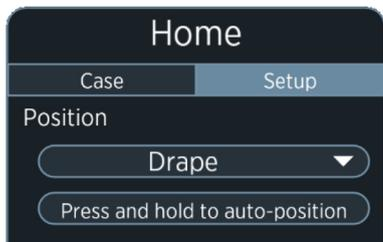

Fig. 15
- ▶ Once the system has fully started up, move the robotic arm into the "Drape" position, see Fig. 15.